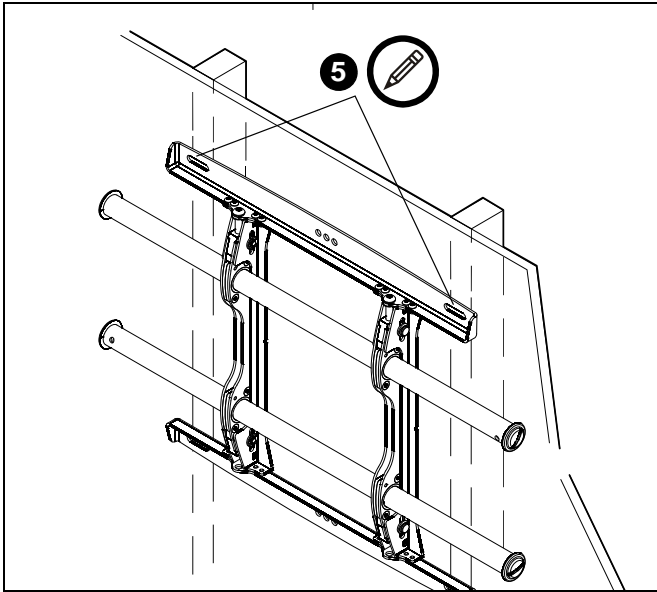

Figure 5
5. Using a level, mark the wall on each stud to attach the mount through the upper mounting slots. (See Figure 5)